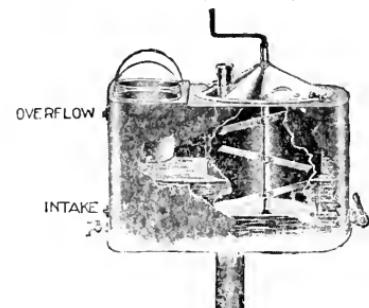

FIG. 66 - MIXER AND GLUE HEATER SHOWING CONSTRUCTION.
To prepare hot glue, break it into small pieces and soak for 12 hours in cold water before boiling. Always use a glue pot of the double boiler type, one of which is shown in Fig. 66. This has a mixer as well as the separate glue pots in which the glue is afterwards placed. It should be the consistency of thin syrup when applied.
71. Glue Heaters--The glue heater shown in Fig. 66 may be attached to a live steam pipe so as to heat the water for preparing the glue and keeping it heated, or have gas burners placed beneath it. In mixing glue, always keep in mind that glue which has been heated very many times loses its strength. For this reason no more should be mixed at a time than can be used with minimum number of re-hearings.